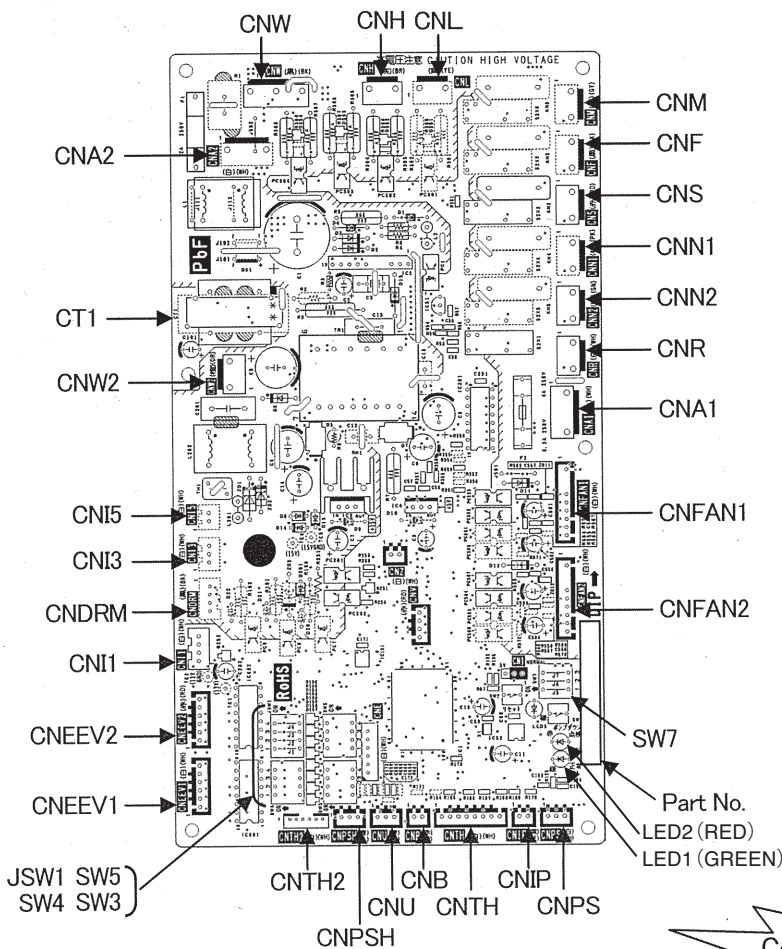

Fig. 1 Parts arrangement view
3. Disconnect the connectors from the control PCB. (Refer to Fig.1)